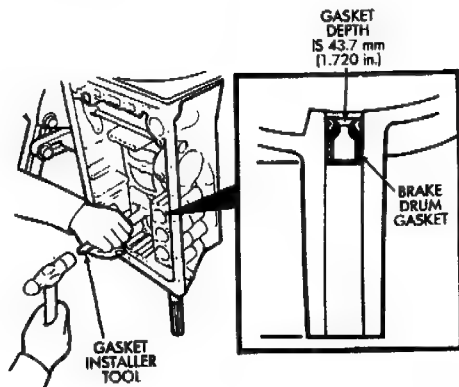

Fig. 9 Installing Second Brake Drum Gasket
(12) Install second brake drum gasket with tool B.Vi. FM-33 (Fig. 9). Gasket depth is 43.7 mm (1.720 in).